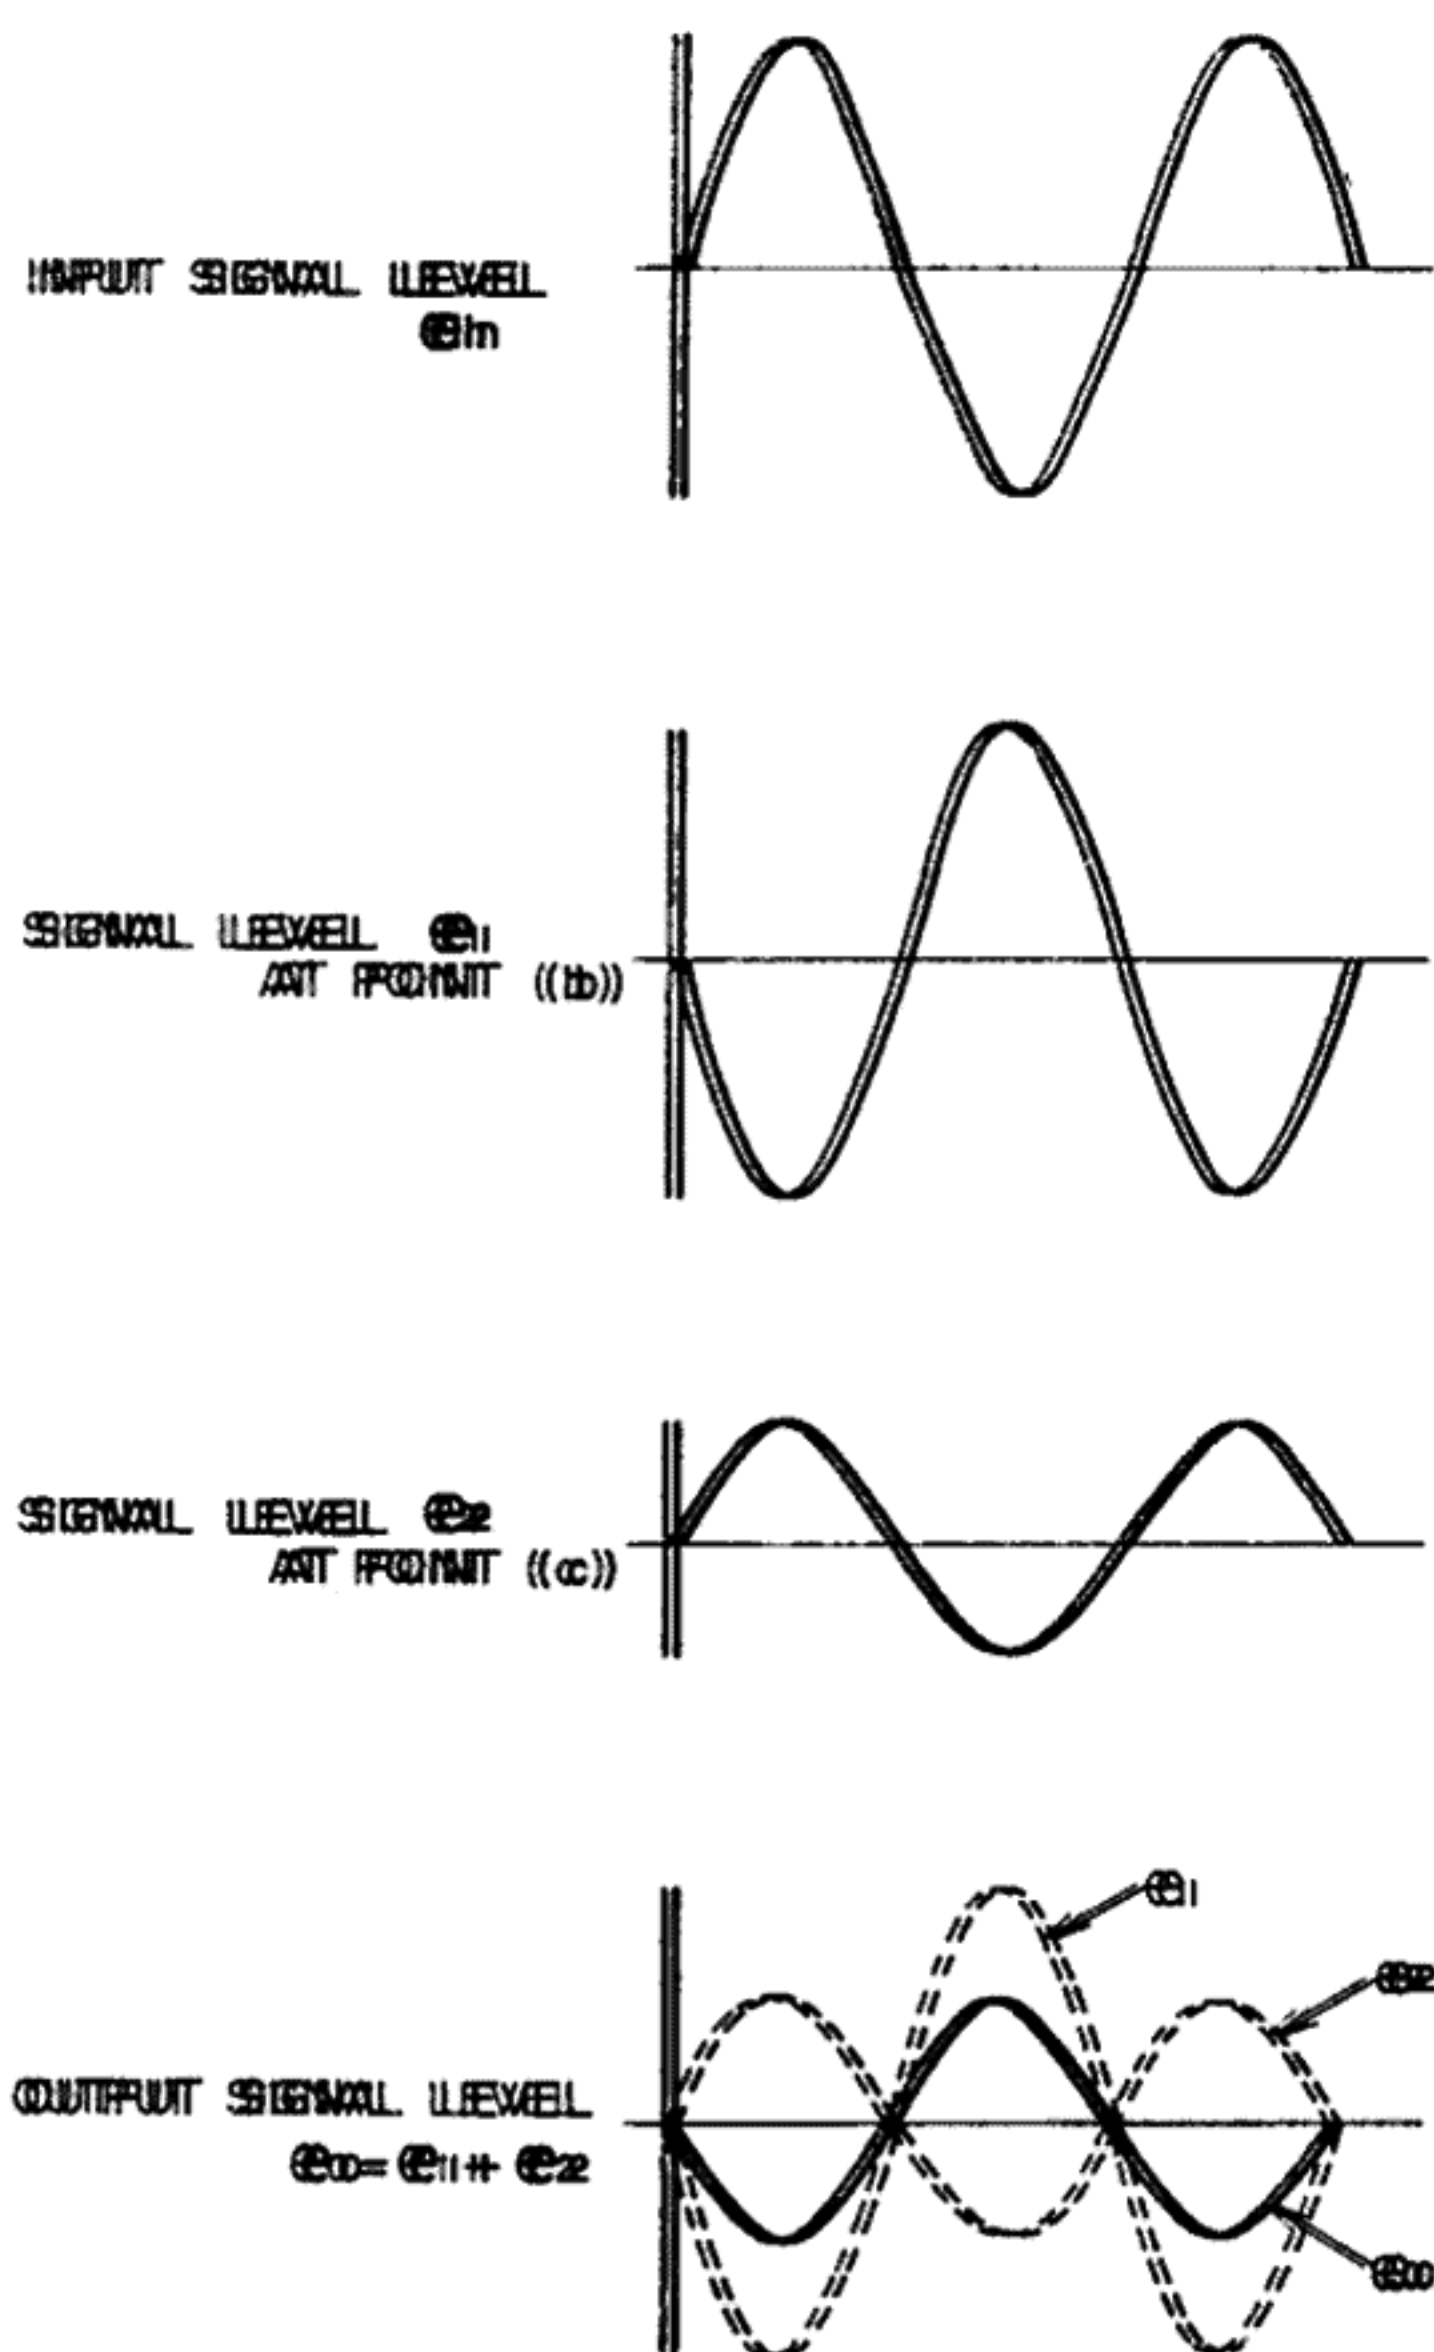

Fig. 30
- 3) Signal e_2 appearing at point (c) is supplied as the reverse phase of TR2 output signal e_1 (See Fig. 30). At this time, the Dolbyized signal reverts to the original signal and the output signal becomes e_0 .